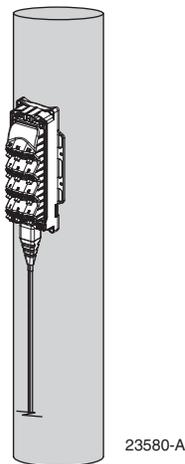

Figure 8. Typical Pole-Mount Installation
- **Pole-Mounting** (aerial) – The MST may be mounted on a utility pole as shown in Figure 8. The UMB may be attached to the pole with lag screws or construction screws. Other than the fasteners, no additional parts are required for pole mounting.